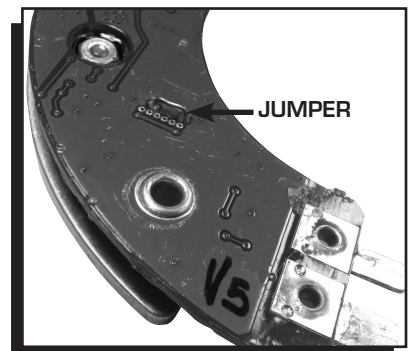

Figure 6
**No Rev Limit:** To disable the rev limit function, cut and remove the jumper shown in Figure 6.